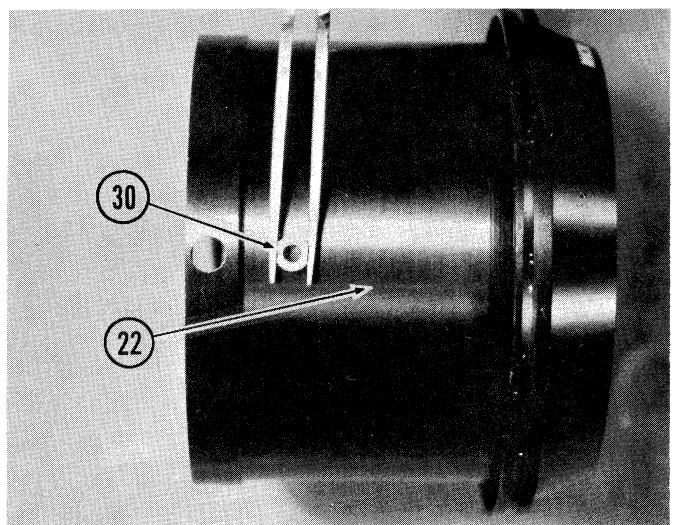

Fig. 20
- 2.3.12 Hold Roller (30) with tweezers as shown in Fig. 20 (that is, with flats of roller crosswise to lens axis), and push roller into clearance hole shown in Zoom Ring (22).